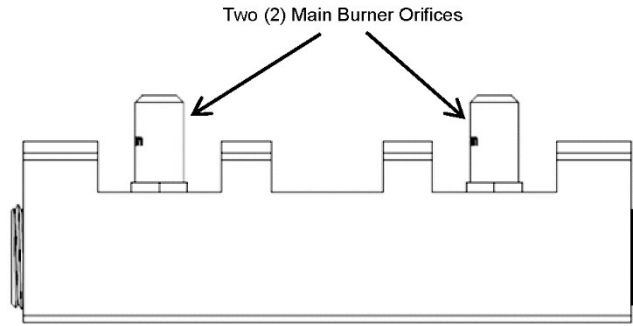

Figure 30. Burner Manifold
- Replace main orifices (Figure 30)
2. Replace the main orifices (Figure 30) on the manifold assemblies with the supplied LP orifices and replace the manifold assembly. Reconnect and secure the union. Check for leaks.